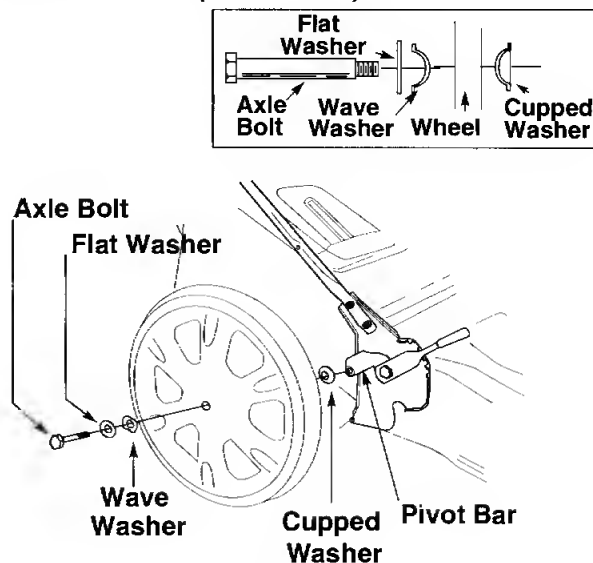

Figure 6
- Assemble the rear wheels as follows. See figure 6.
- Place one large flat washer on the axle bolt, then the wave washer as shown in figure 6 inset.